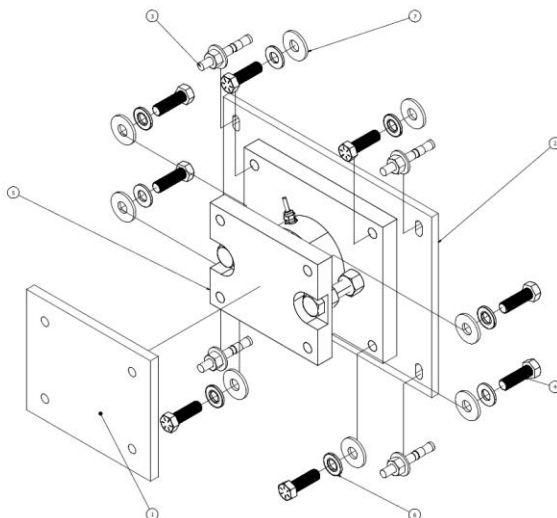

Figure 2
1. If using the optional black anchor base plate, make sure it has been installed and hand tightened to the lower pancake plate using 4 pcs of the 5/8 in. x 2 in. bolts with 5/8 washer and lock washers. (See figure 2 below). The black anchor plate is optional but recommended as it makes removal of the entire load cell bracket assembly in the future very convenient if needing to be replaced.
2. Slowly raise the entire bin a minimum of 5.5 inches to allow positioning the pancake assemblies underneath each bin leg. Then after the bin is in position slide the load cell assembly underneath the legs. Carefully align the weld plate and bolt upwards from the pancake cell upper plate to the bottom side of the bin legs weld plate. Assemble using 4 pcs of the 5/8 in x 2in. bolts, along with the 5/8 washer and lock washers (See Figure 2 below). The hardware can be hand tightened initially until the bin is lowered and in final position.